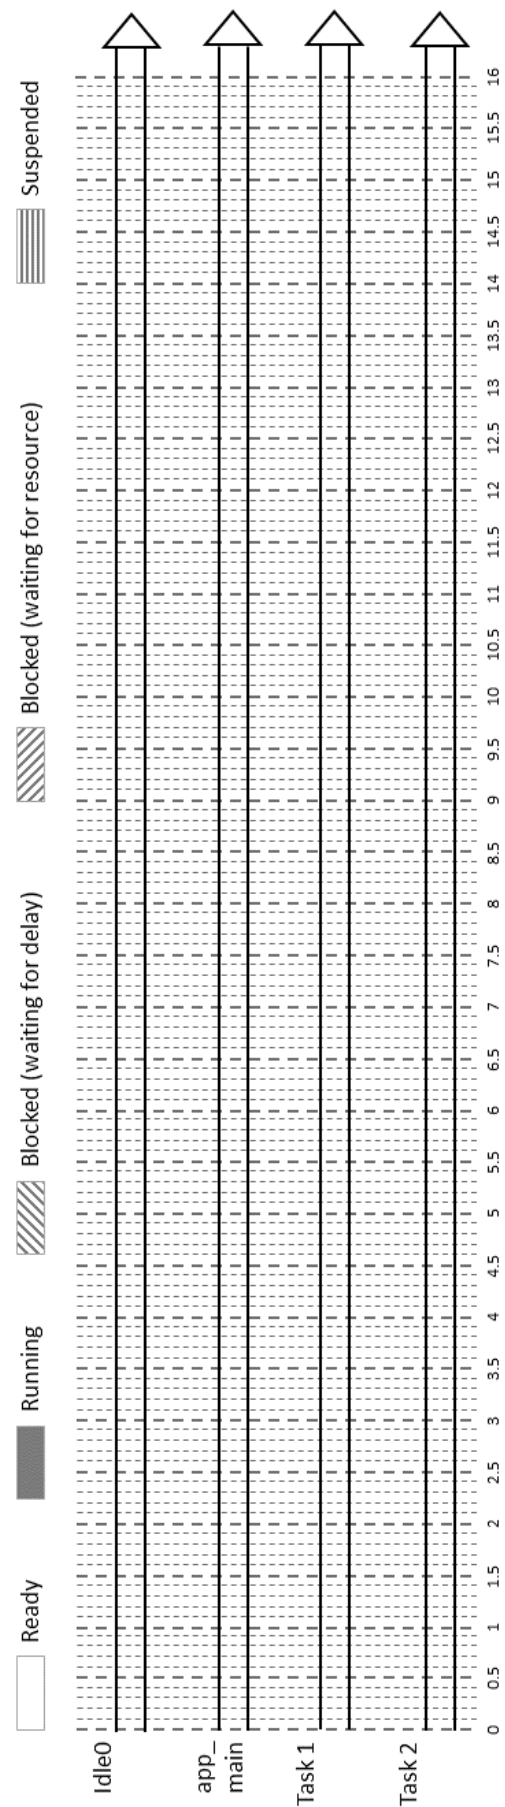

FIGURE 1.4 – Scheduling of 3 tasks with task delay.
6. Trace in the figure 1.4 the behavior of tasks until 160 ticks.